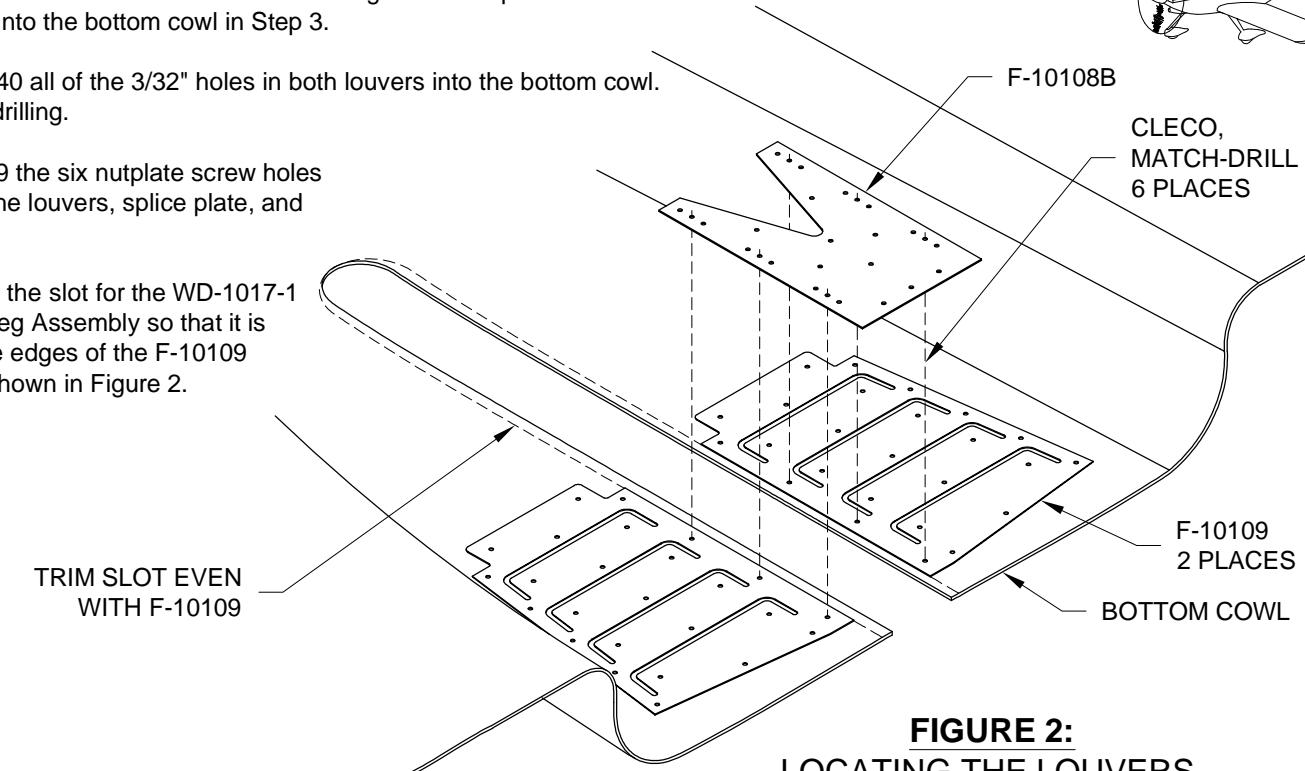

FIGURE 2:
Step 5: As shown in Figure 2, cleco the two F-10109 Louvers and the F-10108B Splice Plate to the bottom cowl using the six nutplate screw holes drilled into the bottom cowl in Step 3.
Step 6: Trim the slot for the WD-1017-1 Nose Gear Leg Assembly so that it is even with the edges of the F-10109 Louvers as shown in Figure 2.